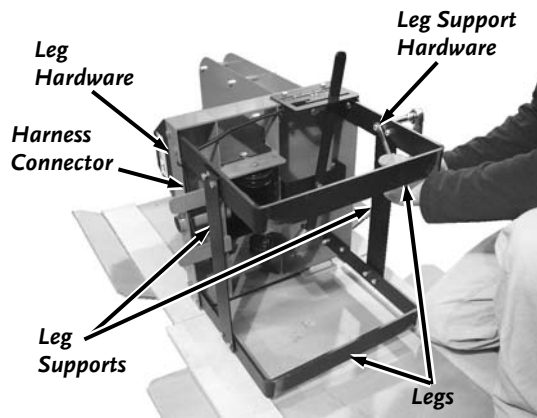

Figure 5
1. Position the Legs onto the Chipper Body and install the Bolts and Locknuts snug but not tight (**Figure 5**).